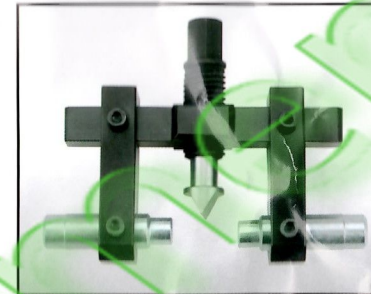

Fig. 1
3. Set up the Multi-Steering Knuckle Spreader Tool. (Fig.1 or 2)